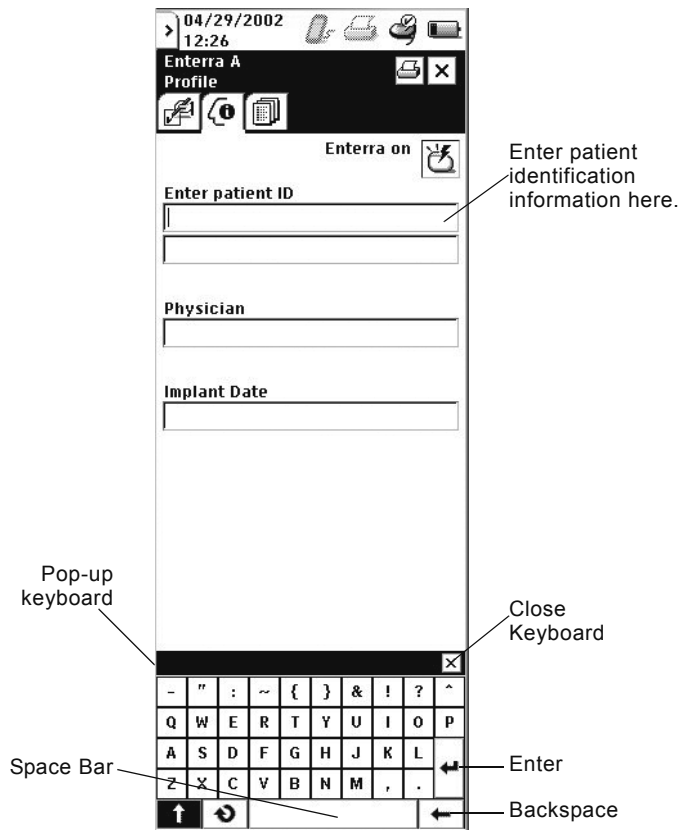

Figure 15. Enter patient information.
2. Using the stylus, touch the input box under the patient ID field. The keyboard appears (Figure 15).